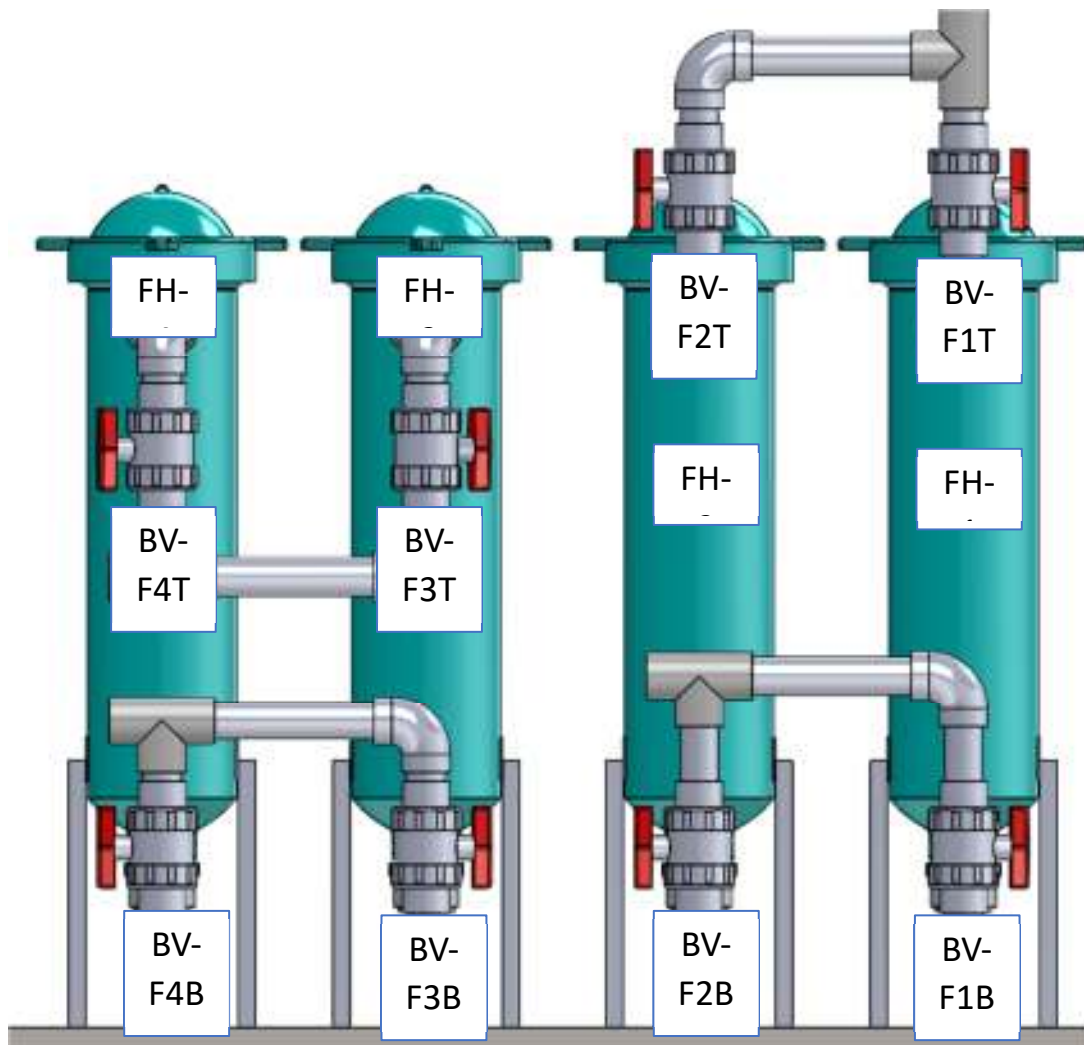

FIGURE 14
- iii. Verify that all four (4) ball valves associated with Filter Housings FH-3 and FH-4 are in the open position. (BV-F3B, BV-F3T, BV-F4B, BV-F4T See Figure 14)